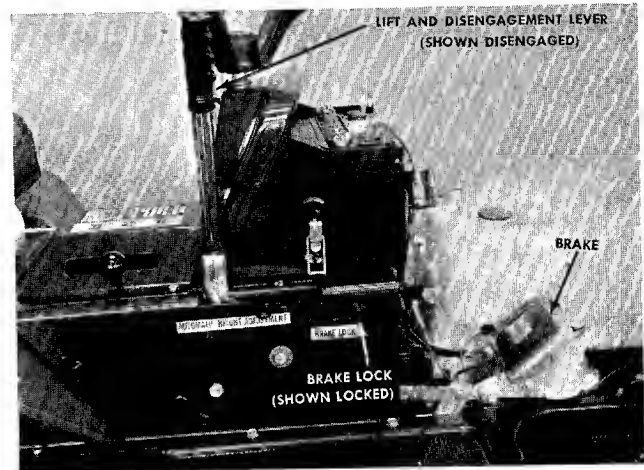

FIGURE 8. RIGHT HAND CONTROLS
c. **Brake.** The brake pedal is located on the right hand side of the mower and is operated by depressing it with your right foot. See figure 8.
d. **Brake Lock.** The brake lock is located on the right hand side of the mower. To lock the brake, depress the brake pedal and lift up the lock button. The pedal will stay depressed. To release, depress the pedal. See figure 8.
l. **Lift and Disengagement Lever.** It is used to raise the cutting deck. Pulling it all the way back and locking it disengages the blades. The engine will not start unless the lift and disengagement lever is in the disengaged position. See figure 8.
Step 3. Place the lift and disengagement lever in the DISENGAGED position. See figure 8.
To stop the blades, move the lift and disengagement lever (figure 8) into the **DISENGAGED** position. This raises the deck and disengages the blades.